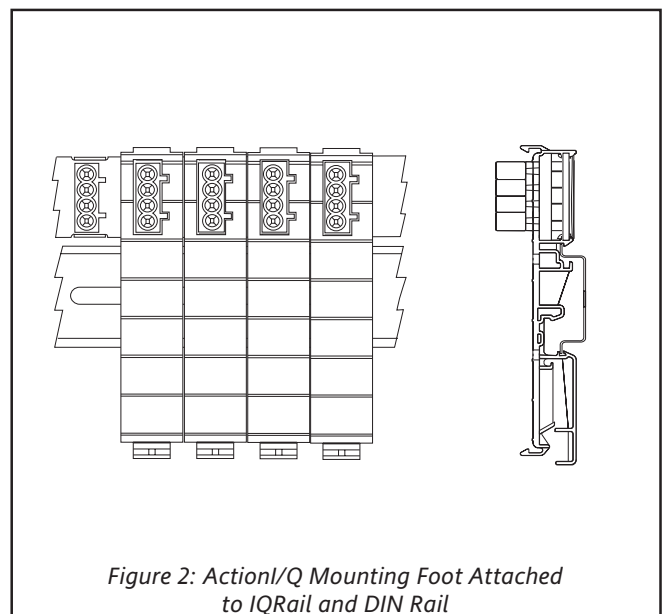

Figure 2: ActionIQ Mounting Foot Attached to IQ Rail and DIN Rail
2. Once the DIN rail is firmly in place, snap the foot and I/Q Rail assembly to the DIN mounting rail, starting from the center unit on the rail and working outward. When all the feet are mounted to the DIN rail the I/Q Rail should be held firmly in place parallel with the DIN mounting rail (see Figure 2).